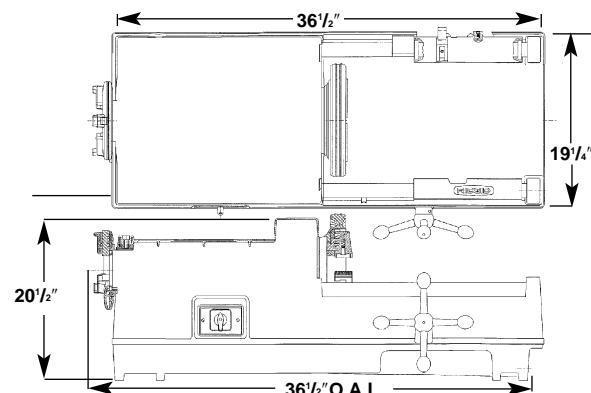

Figure 2 – No. 535 Machine Dimensions
1. If a stand is not used, the machine should be mounted to a stable bench. To mount the unit on a bench, use four (4)  $\frac{5}{16}$ " bolts in holes provided at each corner of machine base. Base dimensions are shown in *Figure 2*.